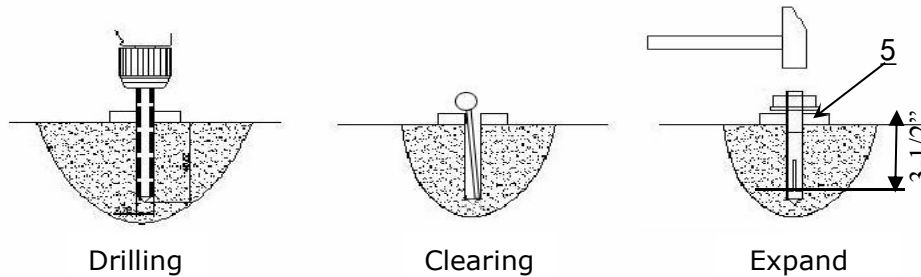

Fig. 17
2. Using the prescribed rotary hammer drill, and drill all the anchor holes and install the anchor bolts, do not tighten the anchor bolts first (See Fig. 17).